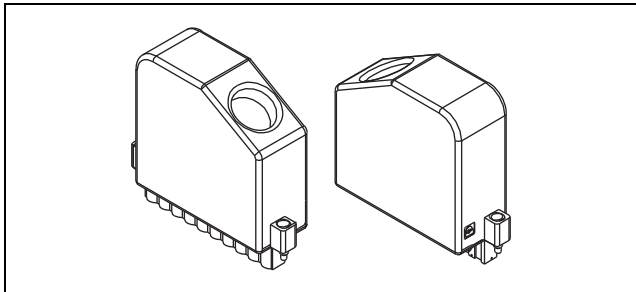
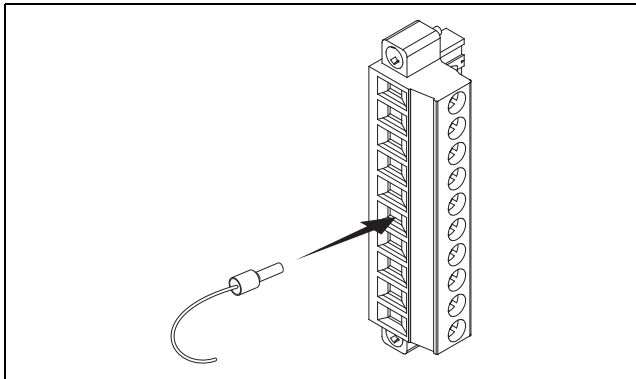

Figure 1. NI 9932 Connector Backshell
Figure 5. 10-Terminal Detachable Screw-Terminal Connector with Ferrule
Figure 1 shows the NI 9932 connector backshell.
If an application is subject to high vibration, National Instruments recommends that you either use ferrules to terminate wires to the detachable screw-terminal connector or use the NI 9932 backshell kit to protect the connections. Refer to Figure 5 for an illustration of using ferrules. Refer to Figure 1 for an illustration of the NI 9932 connector backshell.
- Use the NI 9932 connector backshell kit shown in Figure 1.